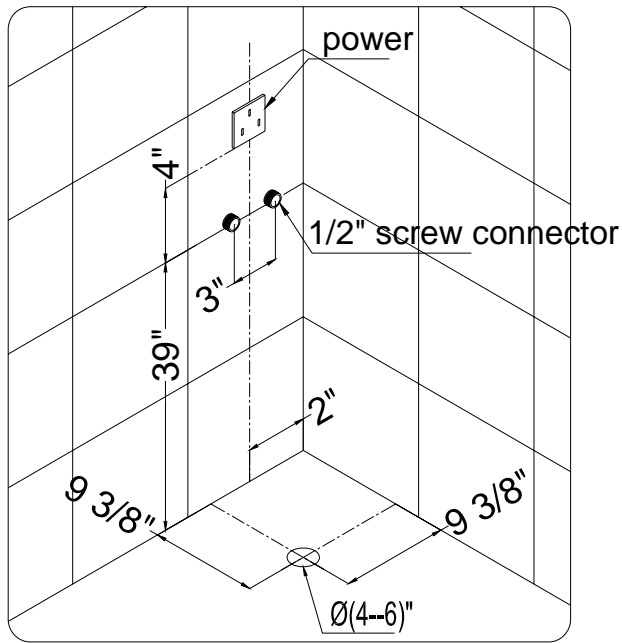

Fig. 1
(Note: Figure 1 shows water and power location to be installed on the left wall. You can also install it on the right wall symmetrical to left wall drawing).
1. Choose the location where your cabin will be installed. Mark the location of the tray. Install the drain pipe according to the drawing. Fig 1. Be sure the upper edge of the 2" elbow or bushing will be on the level or below the floor level. Fig 2 (image 1).